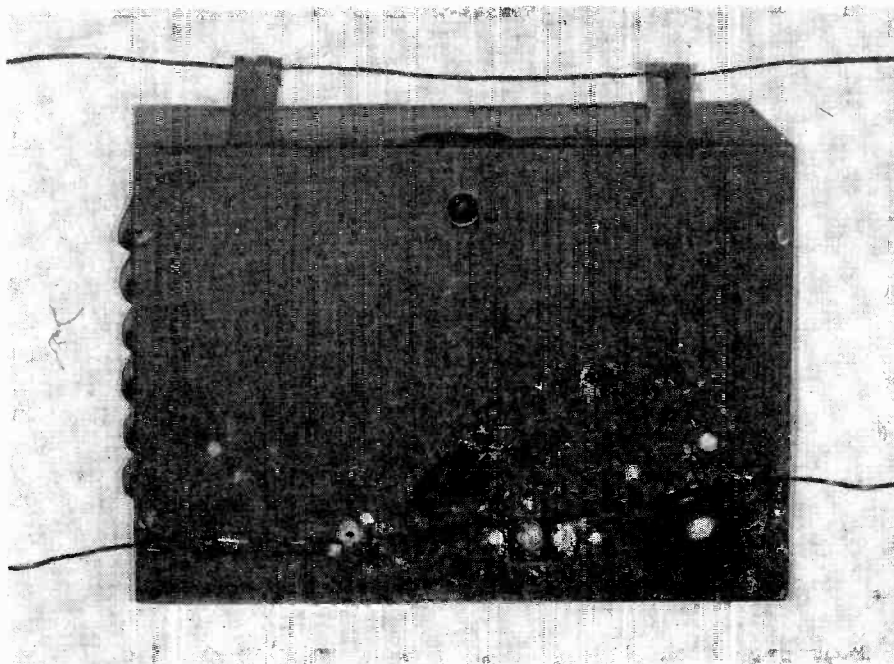

Fig. 1 External view of the frequency modulated record player. Part of the radiating loop is seen connected to the binding posts.
Television receiver manufacturers are constantly striving to make their equipment simpler and less expensive. As more and more people are able to buy television receivers, the importance of television to the serviceman increases. More sets mean more potential repair and maintenance jobs. An interesting development is now proposed which may bring television into many more homes in the future. Although it is not yet being used, it may point a way to greater production of less expensive television receivers. This method is known as the "inter-carrier" system. Fig. 1 compares the conventional and "intercarrier" systems. The conventional system splits the IF into sound and video sections right after the mixer circuit. The IF carriers are then detected and amplified separately.
**Fig. 1** Block diagrams showing difference between the conventional arrangement and the "intercarrier" system. Above: conventional television receiver. Below: intercarrier receiver.